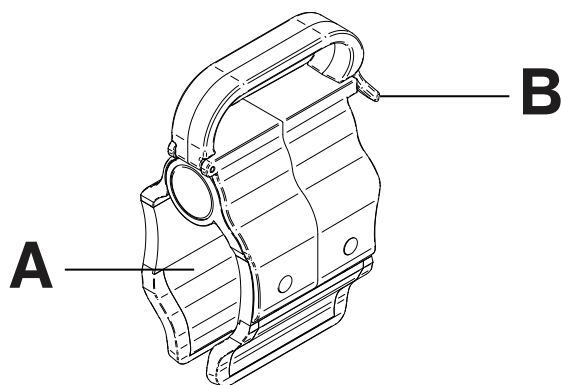

Figure 123: Line management clip
1. Open the clip (A) (Figure 123 on page 111).
1. Raise the clip prong (B) (Figure 123 on page 111).